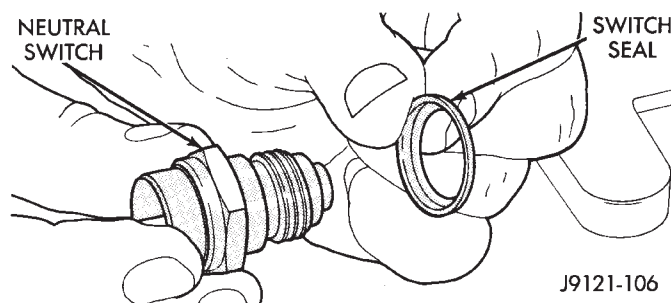

Fig. 170 Park/Neutral Position Switch Seal Position
(56) Install seal on park/neutral position switch (Fig. 170). Then install and tighten switch to 34 N•m (25 ft. lbs.).